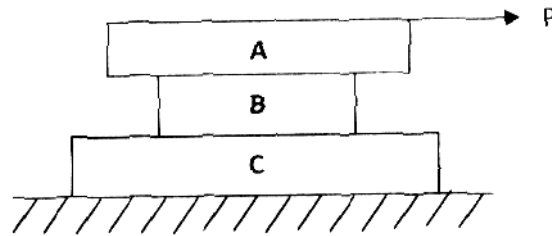

Fig. 5
- (b) Consider a system of three blocks resting upon one another as shown in Fig. 5. The blocks A and C weighs 150 N and B weighs 100 N. The coefficients of friction are 0.3 between A and B, 0.2 between B and C, and 0.1 between C and the ground. Determine the least horizontal force P necessary to start motion of any part of the system.